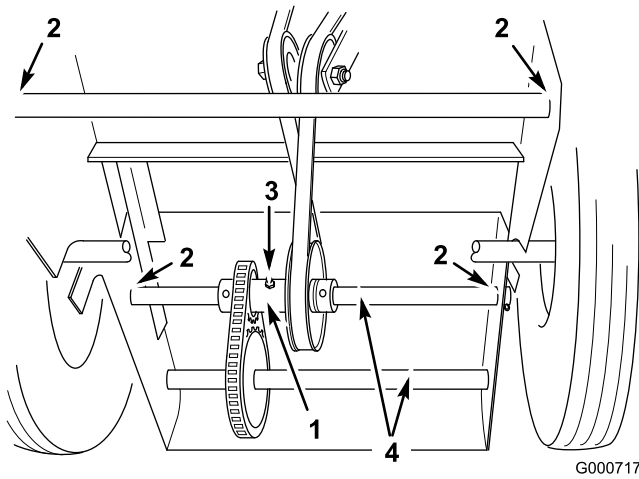

Figure 25
- Where the front wheel support pivots in the engine base (Figure 25)
- Where the rear traction shafts pivot in the engine base (Figure 25)
Lubricate the rear idler assembly with No. 2 general purpose grease after every 25 hours of operation or more frequently when conditions are dusty or sandy (Figure 25). Pump grease into the fitting until it oozes out of the bearings.